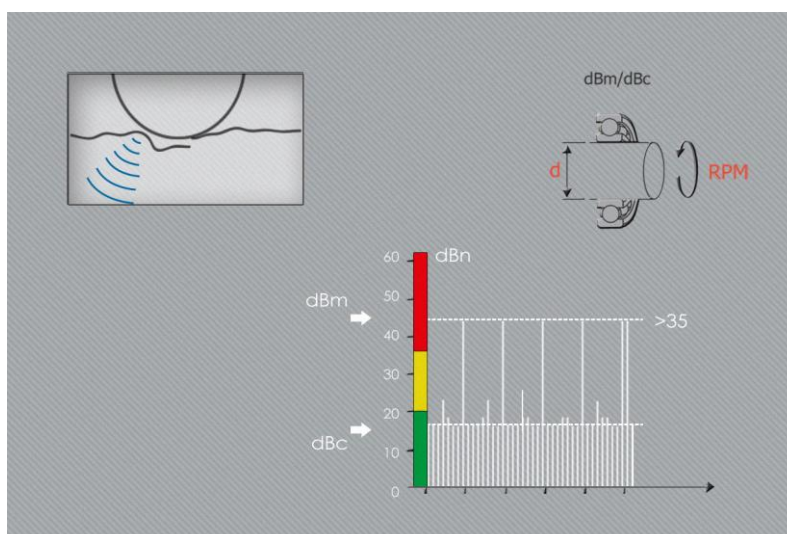

Figure 4-11. Bearing with severe damage.
c) Bearing with severe damage (Figure 4-11).